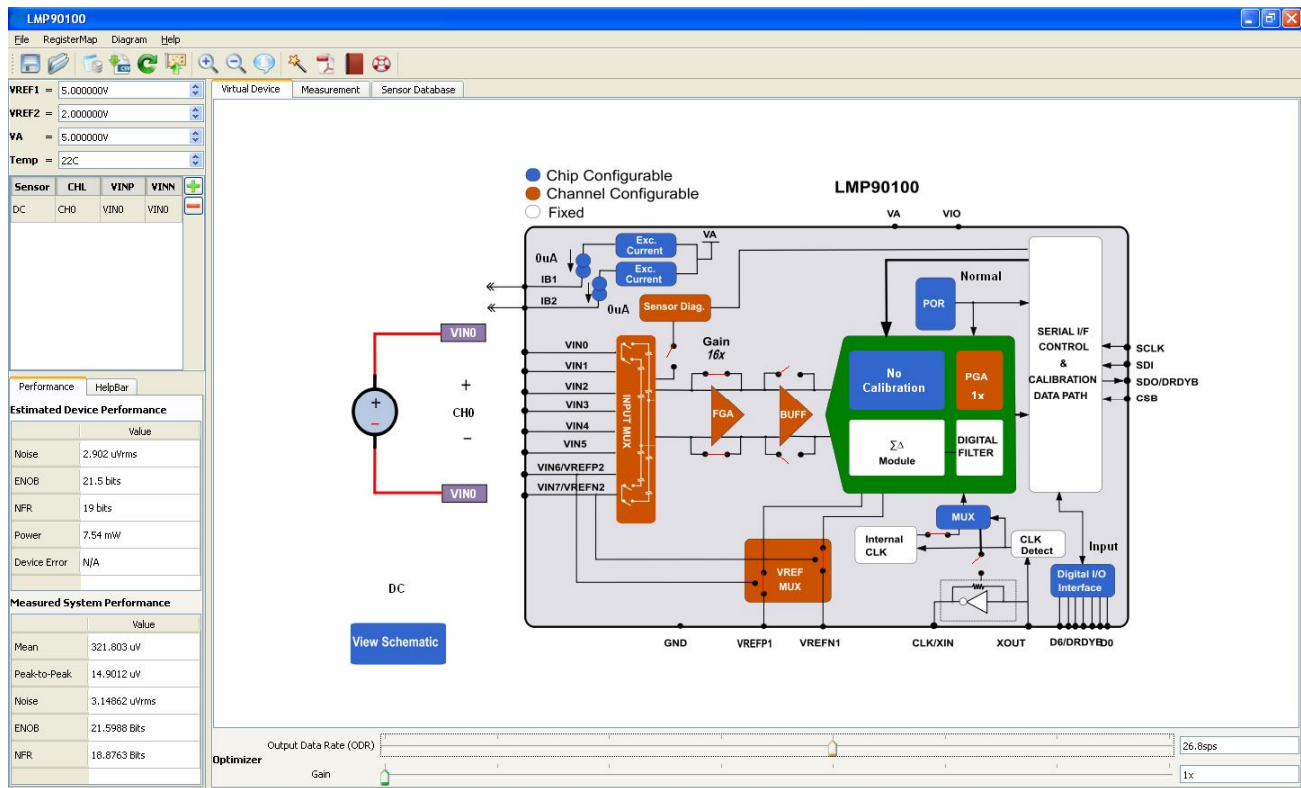

Figure 7 - Recommended LMP90100 Configuration for Example #2: Shorted Input and Calibration Test
1. Follow the step-by-step instructions under the "**HelpBar**" mini-tab to configure the device. The recommended configuration can be seen in Figure 7.